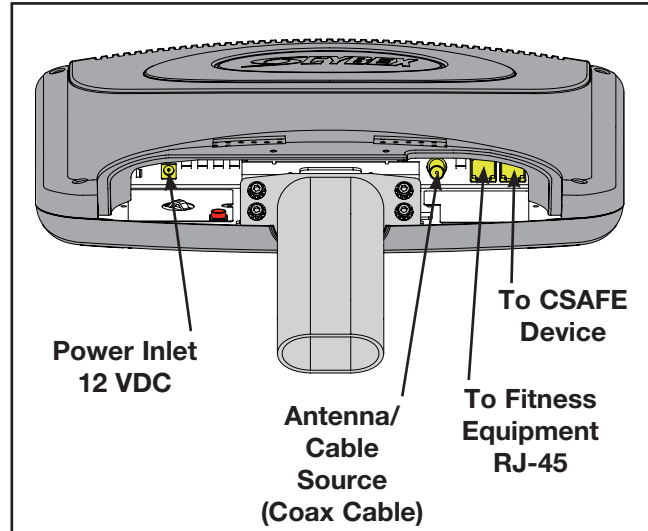

Figure 24
- F. Insert the power cable, coax cable and RJ-45 cable into the monitor as shown in Figure 24. **NOTE:** Use of the CSAFE port is optional and requires a CSAFE cable and device.